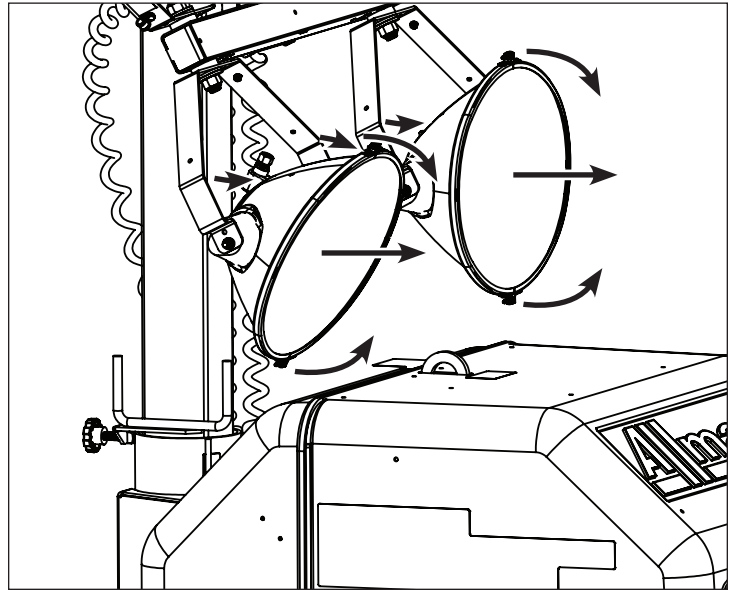

Figure 16
- Manually adjust each fixture (up/down/left/right) to suit lighting needs. See Figure 16.
- When lighting operations are complete, adjust the light fixtures to the transport position, with the fixtures facing straight back toward the rear of the light tower trailer. See Figure 16.